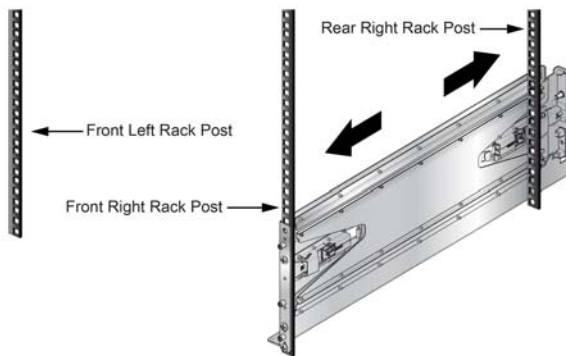

Figure 9: Adjusting the Right Shelf
- Step 4** Glide the slide-end to a position outside of its rear rack post (Figure 9).